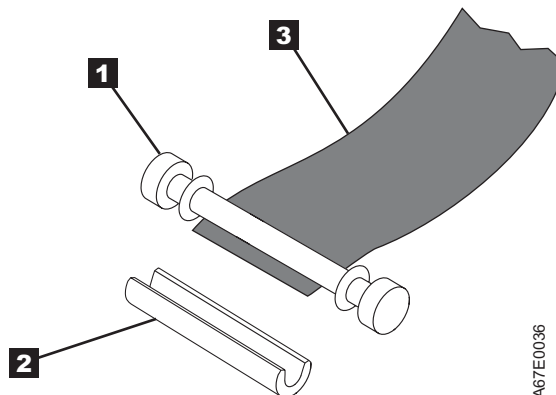

Figure 57. Removing the C-clip from the leader pin. Use your fingers to push the C-clip from the leader pin.
5. On the leader pin (**1** in Figure 57), locate the open side of the C-clip **2** . The C-clip is a small black part that secures the tape **3** to the pin.